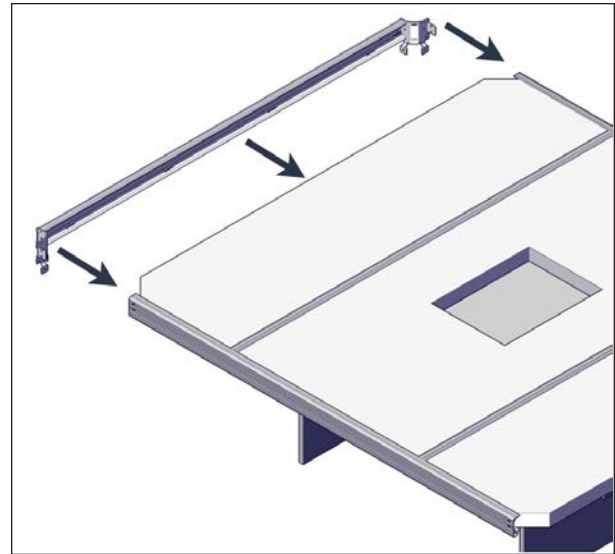

**FIGURE 41: CORNER BRACKET INSTALLATION**
5. Insert the inner corner brackets in both ends of the C- channels remaining. Use the provided Robertson sheet metal #8 x 3/4 in. screws on the inside holes Figure 41.